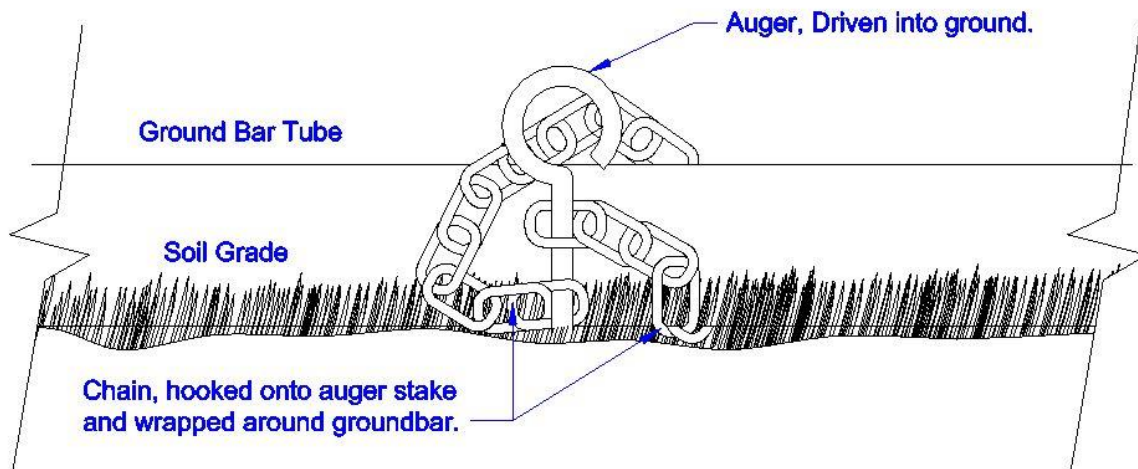

Figure 5. Auger and Chain installation.
16. Install Auger and Chain over Ground Bar tube near each end and screw into ground. (See Figure 5)